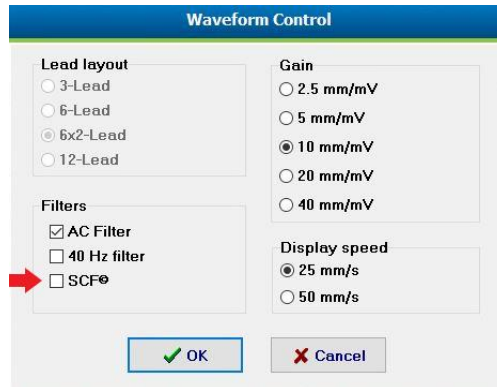

Figure 3 Waveform Control window
- It can also be enabled/disabled by left-clicking anywhere in the real-time ECG window which opens a “Waveform Control” window, allowing the user to set displayed ECG leads, filters (including the SCF), display gain and display speed (see Figure 3).